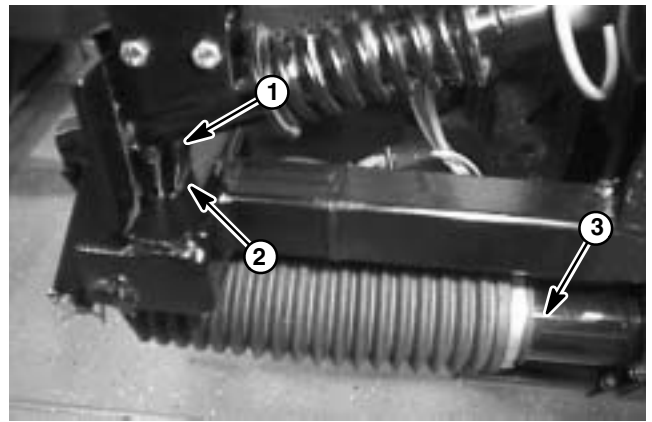

Figure 46
3. With the boom actuator at full extension, the breakaway pivot gusset should just touch the center boom frame slot (Fig. 46).